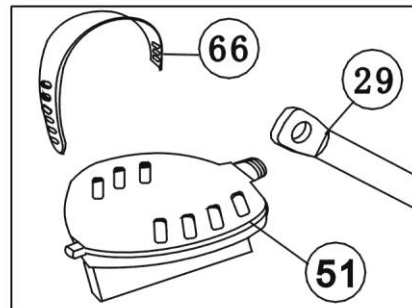

Figure 9
attach the Left & Right pedals (51) to the Crank axis (29). The Left Pedal (51L) should be threaded on counter-clockwise. The Right Pedal (51R) should be threaded on clockwise. (See figure 9)
**NOTE:** The Left & Right Pedals (51) and Crank axis (29) are marked with "L" & "R".